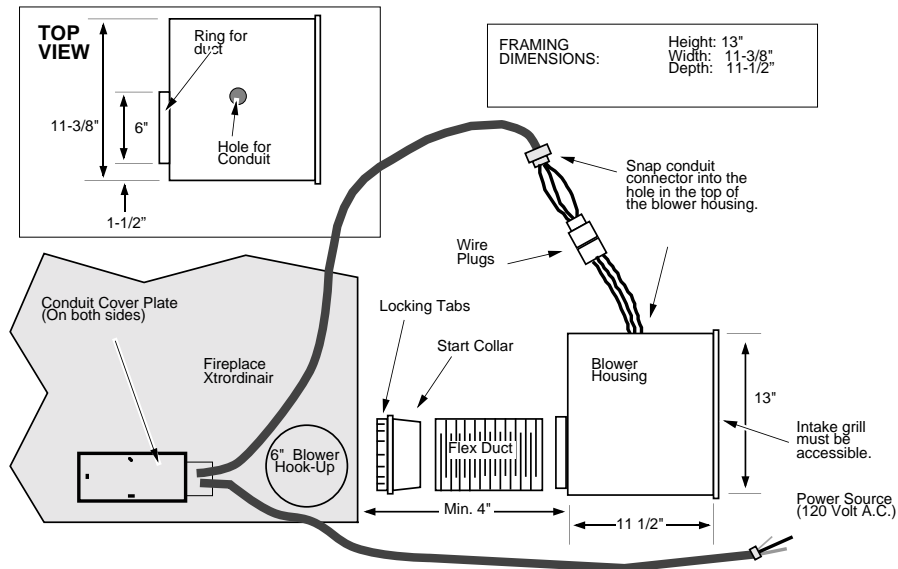

Figure 17
- Connect the blower duct to the right, left, or bottom of the fireplace. Each location is sealed with a cover plate. If using the bottom location, remove the 8-1/2" by 6-1/4" air deflector directly above the cover plate and attach the duct to the 6" hole above the deflector. Insert the starter section into the blower hook-up hole and bend the locking tabs outwards, locking the starter section in place (see Figure 17).
- Connect the electrical supply lead conduit to a 120 Volt, 60 Hz (2 Amp) electrical supply. Use a junction box to protect the electrical connection (see Figure 17).
- Connect the blower conduit to the blower box by attaching the two molex connectors together. Insert the molex connectors into the blower box. Then attach the conduit to the blower box by inserting it into the top until it snaps in place (see Figure 17).